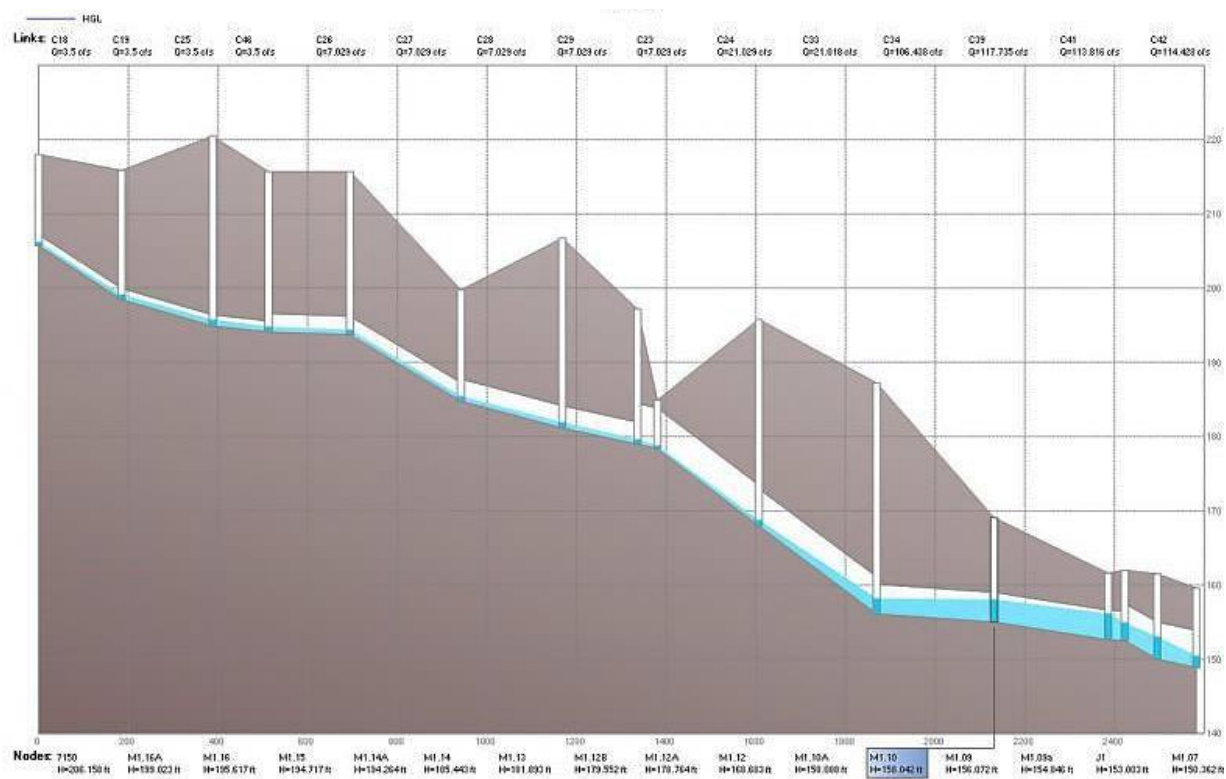

Figure 17: Sewer model results in profile view during a peak flow event.
- Pipes and manholes at risk of backup or overflow (see Figure 17)